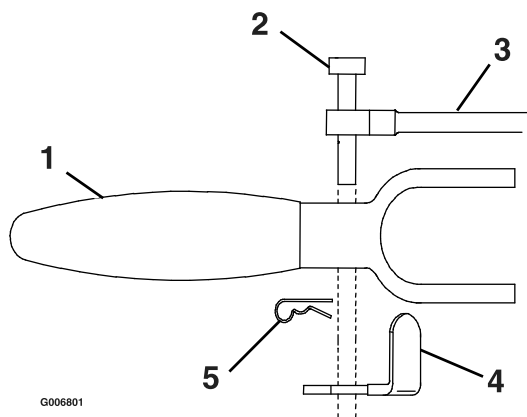

Figure 10
4. After the clevis pin has been inserted, install the hairpin into the hole on the clevis pin between the neutral lock/park brake latch and the drive lever (Figure 10).